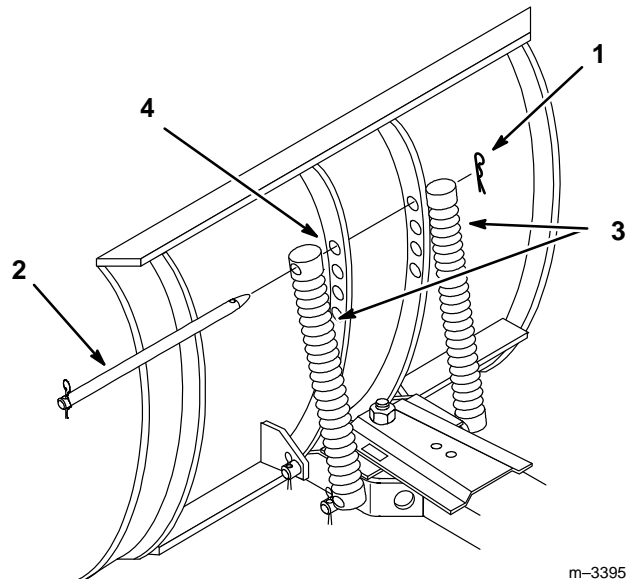

Figure 16
The blade trip springs can be mounted in four positions. The top hole provides the greatest scraping pressure and the bottom hole provides the least scraping pressure (Fig. 16).
1. Remove the hairpin cotter and slide the rod from the blade and springs (Fig. 16).
2. Slide the rod through the springs and the new hole position in the blade (Fig. 16).